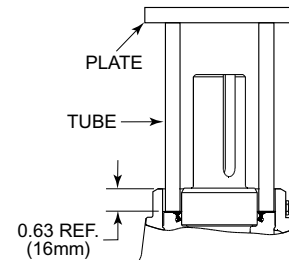

Figure 6.2.3.4 Final Installation of Inboard Seal
- Carefully place the outboard seal over the shaft, garter spring side up. Reference **Figure 6.2.3.5**.